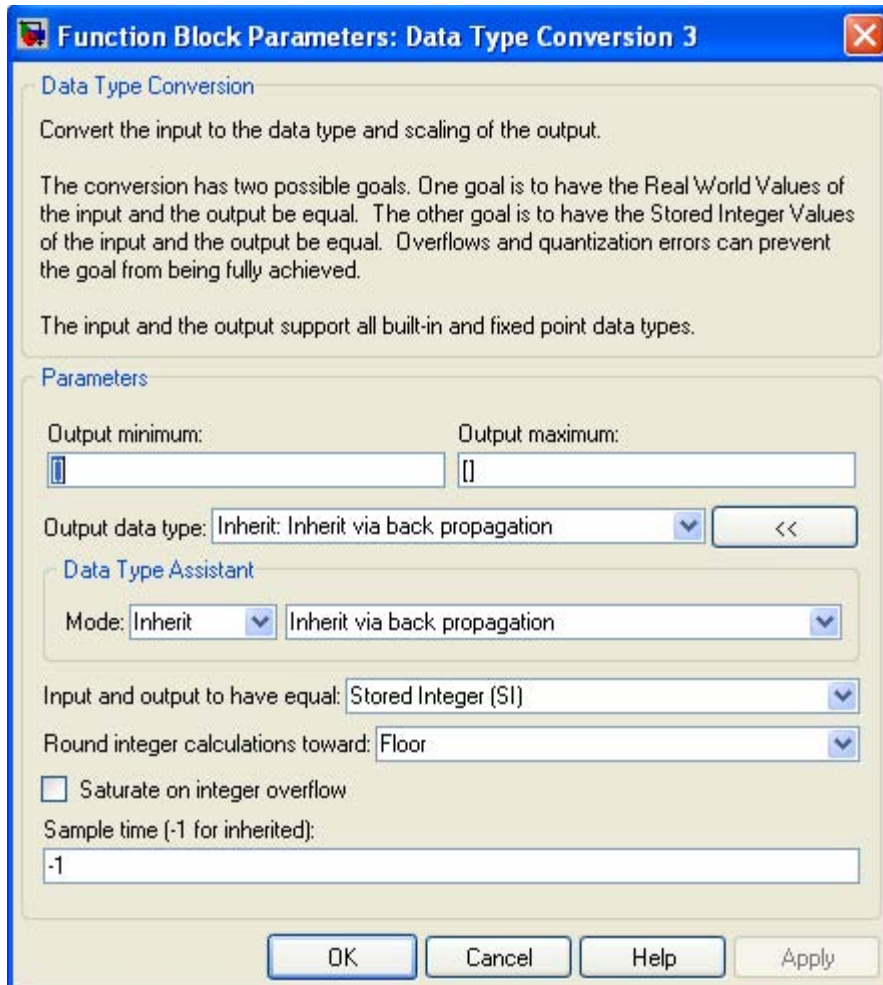

Figure 2.43. Function Block Parameters dialog box for the Data Type Conversion 3 block in Figure 2.40
In the **Data Type Conversion 3** block the input is processed as **Stored Integer (SI)** so that the input is treated as a raw integer with no scaling information and thus **Display 3** block shows the true value 504 whose binary representation is 000000011111000 . The **Function Block Parameters** dialog box for the **Data Type Conversion 3** block is shown in Figure 2.43.